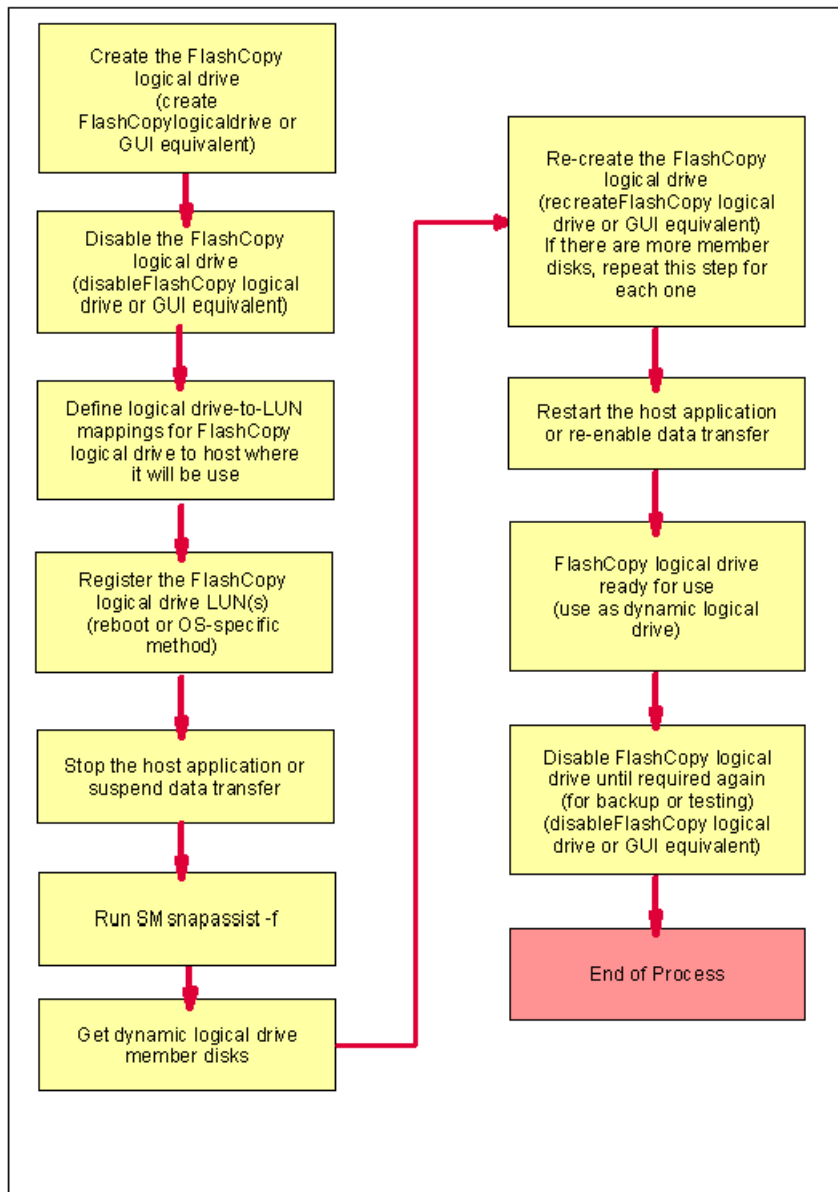

Figure A-3 Creating a FlashCopy logical drive: Windows 2000/2003 dynamic disks
- ▶ Create a FlashCopy logical drive on Windows 2000/2003 (using dynamic disks). See Figure A-3.